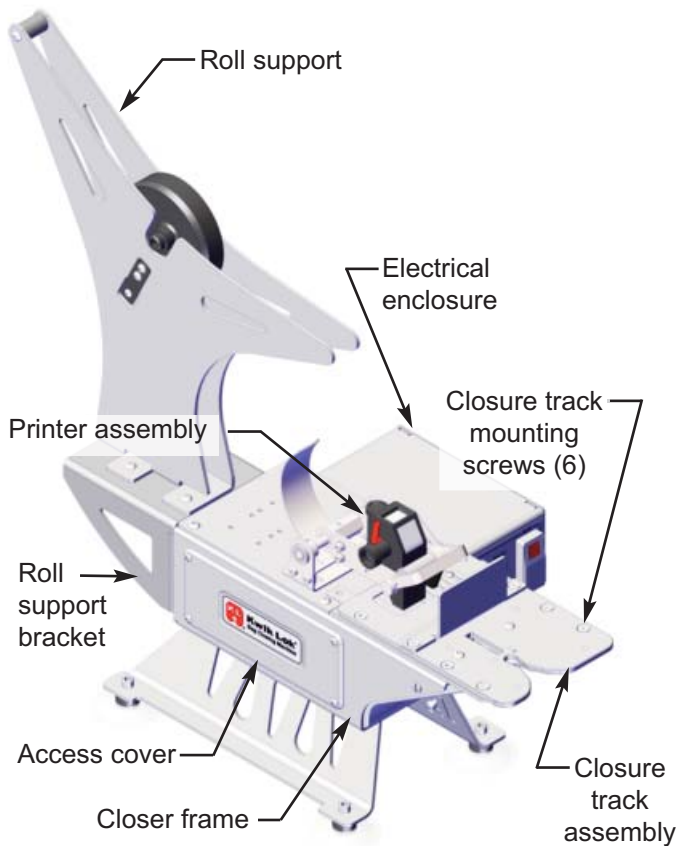

Figure 3.1
A. CLOSURE TRACK ASSEMBLY REMOVAL: Figures 3.1 - 3.3